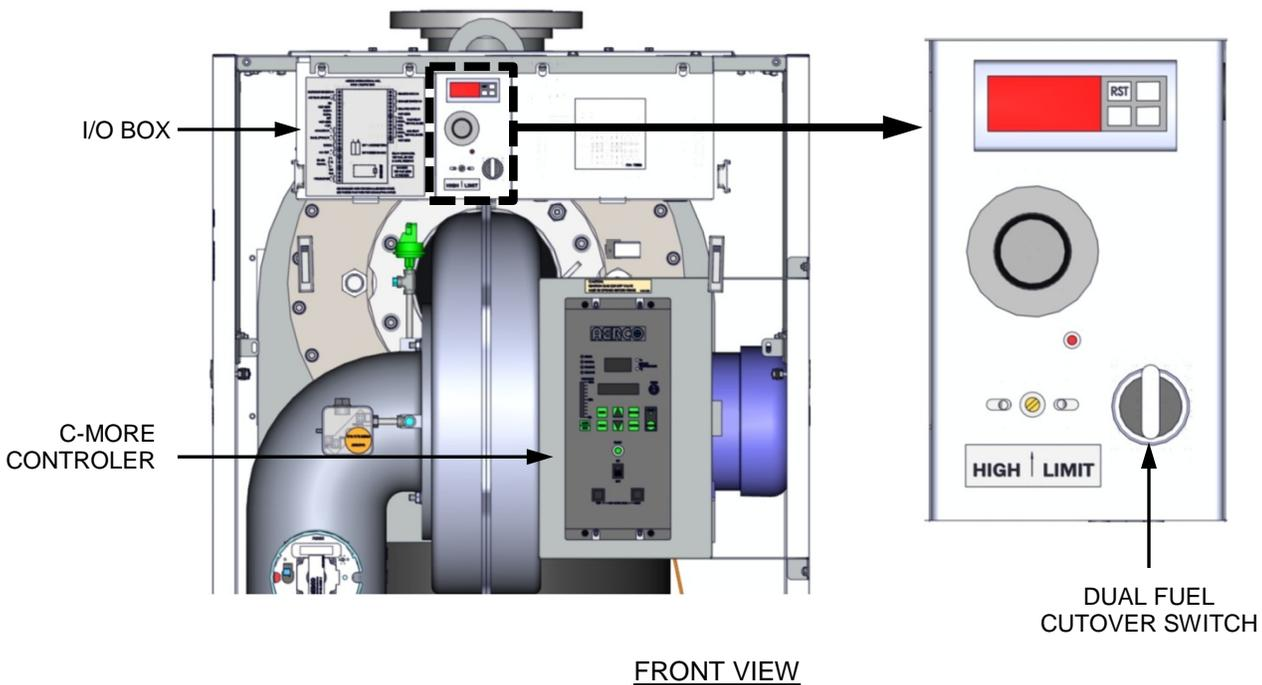

Figure 4-6: Dual Fuel Switch Location
4. Refer to Figure 4-6 and locate the Fuel Selector Switch on the unit, behind the front door.
4. Refer to Figure 4-6 and locate the Fuel Selector Switch on the front of the unit.